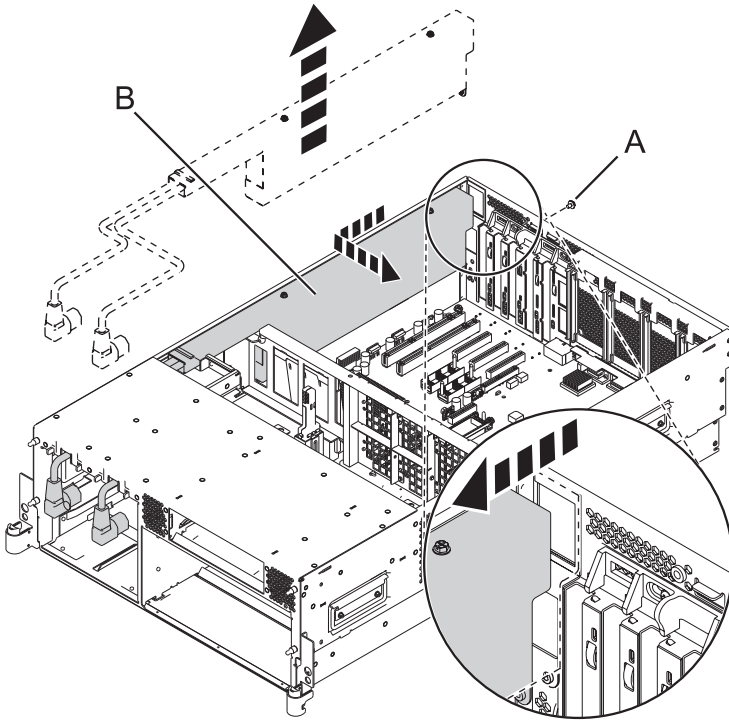

Figure 7. Removing the line cord assembly
- c. Remove the screw (**A**) that is securing the line cord assembly to the rear of the system chassis. See Figure 7 on page 12.